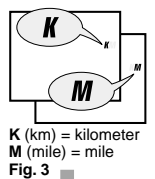

Fig. 3
Press the SET Button while pressing the MODE and START/STOP(S) Buttons (ALL CLEAR OPERATION: Fig. 2). The entire memory of the computer will be erased, and the complete screen will light up and then all fade away, leaving a flashing "K" on the screen. A press on the MODE Button will display "K" and "M" alternately (Fig. 3). Select your desired speed scale. Then press the START/STOP(S) Button to set the scale. The display moves to the next screen.